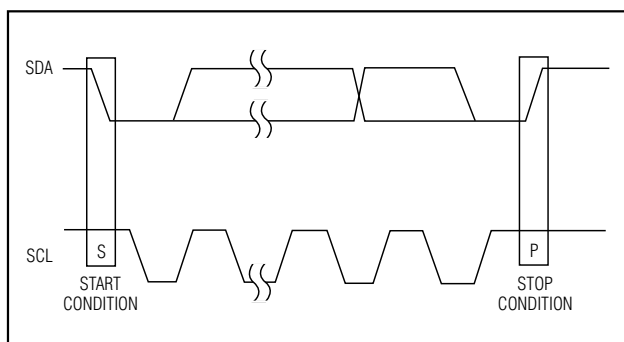

Figure 6. Start and Stop Conditions
Each transmission consists of a START condition sent by a master, followed by the MAX6618 7-bit slave address, plus an R/\bar{W} bit, one or more data bytes, and finally a STOP condition (Figure 6). To write to a MAX6618 register, a write transmission consists of a START condition, followed by the MAX6618 7-bit slave address plus $R/\bar{W} = 0$, a register address byte, one data byte, and finally a STOP condition. To read from a MAX6618 register, a combined write and read transmissions are required. The first write transmission consists of a START condition, followed by the MAX6618 7-bit slave address plus $R/\bar{W} = 0$, a register address byte, and finally a STOP condition that sets the register to be read. The second read transmission consists of a START condition, followed by the MAX6618 7-bit slave address plus $R/\bar{W} = 1$, one or more data bytes, and
Both SCL and SDA remain high when the interface is not busy. A master signals the beginning of a transmission with a START (S) condition by transitioning SDA from high to low while SCL is high. When the master has finished communicating with the slave, it issues a STOP (P) condition by transitioning SDA from low to high while SCL is high. The bus is then free for another transmission (Figure 6).
P: I²C STOP CONDITION. SEE FIGURE 6.
S: I²C START CONDITION. SEE FIGURE 6.